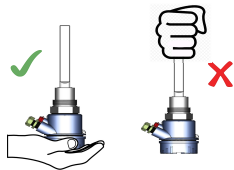

Figure 4: Fork Handling
- When handling forks, do not lift them using their tines. Please see Figure 4.